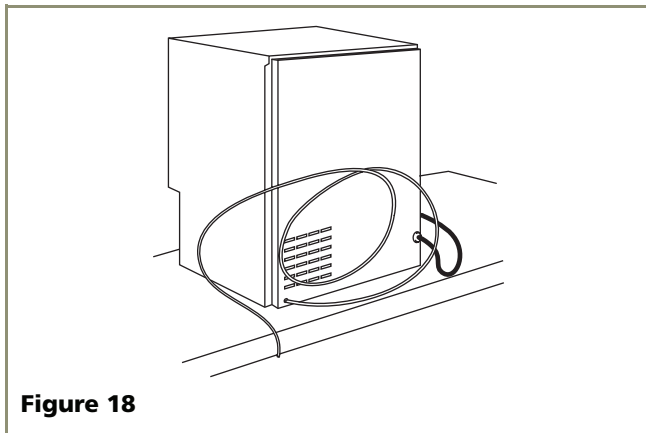

Figure 18
- Connect sufficient tubing to the unit so that tubing may be looped, allowing the unit to be removed for cleaning and servicing (see **Figure 18**). However, make certain that the tubing is not pinched or damaged during installation.
4. For recessed installations, allow extra water supply line length to provide slack for easy removal from the recessed area (see **Figure 18**). This will also safeguard against kinking the line.